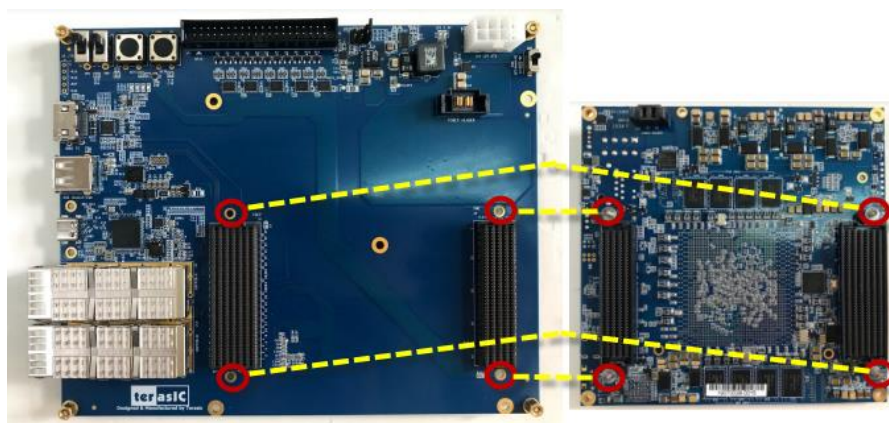

Figure 3-4 Place Apollo Carrier Board over four JSOM-T
3. Place Apollo Carrier Board over the four TSOM-T as shown in **Figure 3-4**.